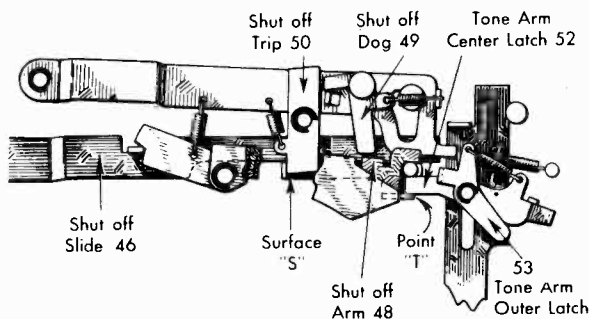

FIG. 16. CUTAWAY—BOTTOM VIEW
(2) Block the tone arm center latch at point 3 (See Fig. 16, point "t" for blocked condition). Excessive clearance at this point will allow the inner latch lever to be partially disengaged by the rotation of the drive gear. Insufficient clearance might cause a wedging action which would prevent smooth operation of the shutoff slide.
A. TONE ARM LATCH LEVERS (also see Fig. 16, page 13)
a. A positive lock for the tone arm when the latter is swung to the outside of the panel, in all positions of the control slide other than "MANUAL". This is brought about by the engagement between the tone arm lever (21) and the tone arm inner latch (51).
b. A partial lock, or detent, for the tone arm while the control slide is in "MANUAL". This results when the control slide is moved to "MANUAL" position. The back end of the control slide moves the tone arm inner latch (51).
c. Complete disengagement results through the cam "j" on the outside edge of the drive gear, acting on the tone arm outer latch (53) during the AUTOMATIC change cycle. Also, it is this unlatching action which puts the tone arm back into AUTOMATIC operation when the control slide is moved to the "REJECT" position.
a. When the tone arm is playing a record in AUTOMATIC position and is moved to the rest position, the tone arm inner latch (51) must positively lock the tone arm lever (21).
b. When the control slide is moved to "MANUAL", the end of the slide must move the tone arm inner latch (51), and change its contact with the tone arm lever (21) from a positive lock to a partial lock, giving a light smooth detent action when the tone arm is in rest position.